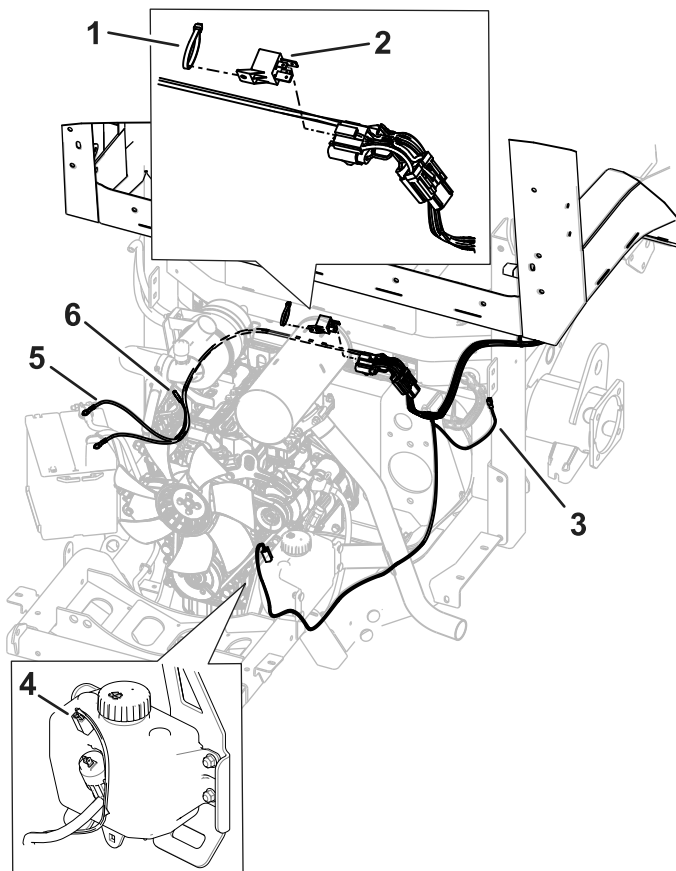

Figure 29
1. Route the wire harness along the machine frame (Figure 29).
6. Install the connector to the fluid tank (Figure 29).
7. Plug the connector shown in Figure 29 to the main harness of the machine.
1. Disconnect the wire harness secured to the machine from the wire harness secured to the cab at the relay location (Figure 29).
2. Disconnect the connect attached to the main machine harness (Figure 29).